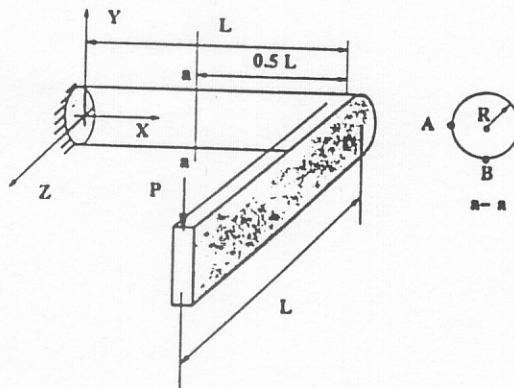

Figure 7: Problem 8
A L-shaped beam is made of a rectangular section and a solid cylinder section with radius  $R = 0.1m$ . The span of the both section is  $L = 2.0 m$ . There is a concentrated load,  $P = 300N$ , acting on the free-end of the rectangular (as shown in Figure 7.). (1) Draw the moment diagram, shear diagram, and